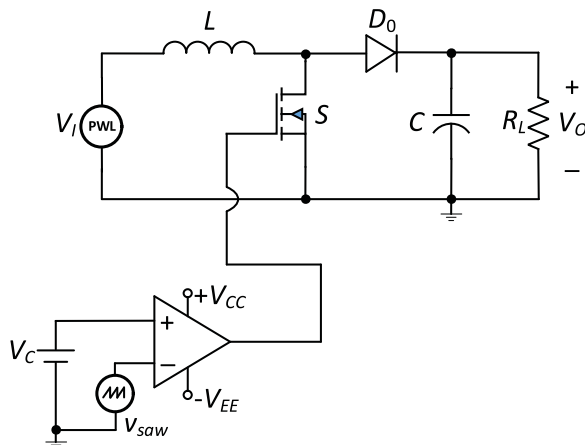

Figure 30.2 Circuit of the PWM boost dc–dc converter used to simulate step change in input voltage.
1. Construct the circuit shown in Figure 30.2 on the circuit simulator.